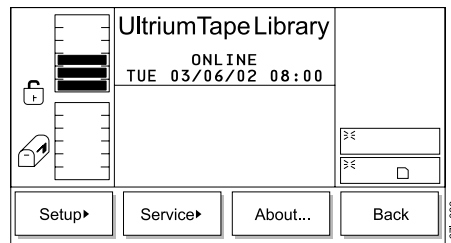

Figure 256. Main Menu (alternate screen)
1. From the Main Menu’s initial screen, press the button below the **More** softkey. The Main Menu’s alternate screen displays (see Figure 256).